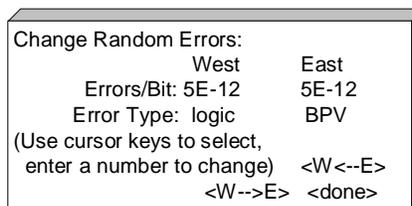

Figure 4.6 Change Random Errors Screen
2. Move the cursor to either the East or West Random Errors field and press a key on the numeric keypad or press **ENTER**. This displays the **CHANGE RANDOM ERRORS** screen (see Figure 4.6).